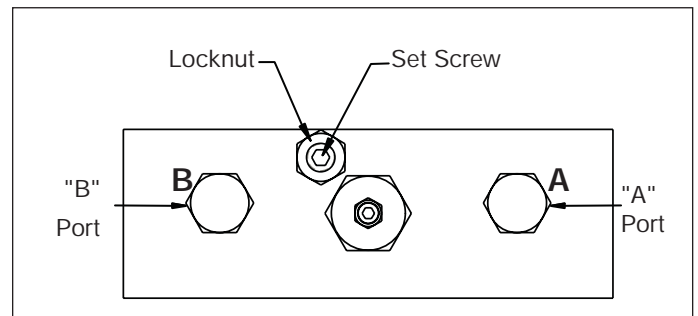

Figure 11, Adjustment Details, Retract-Side Pressure Limiting Valve
3. To allow adjustment, loosen the set screw locknut on the retract-side pressure limiting valve (See figure 11).